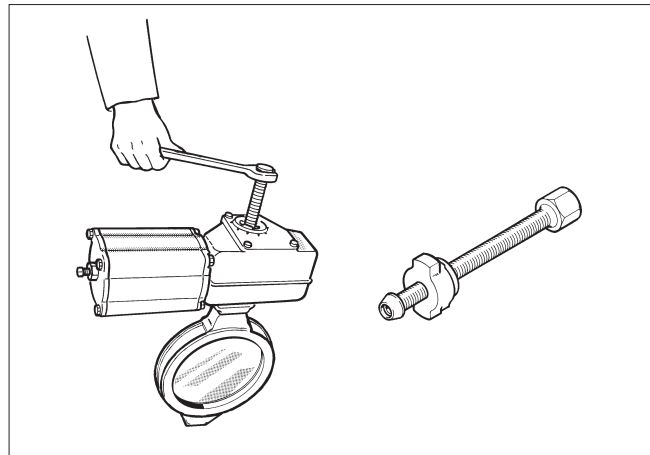

Fig. 19 Pressing the pins
- Detach the actuator using a suitable extractor. The correct tool can be ordered from the manufacturer (see Fig. 19).